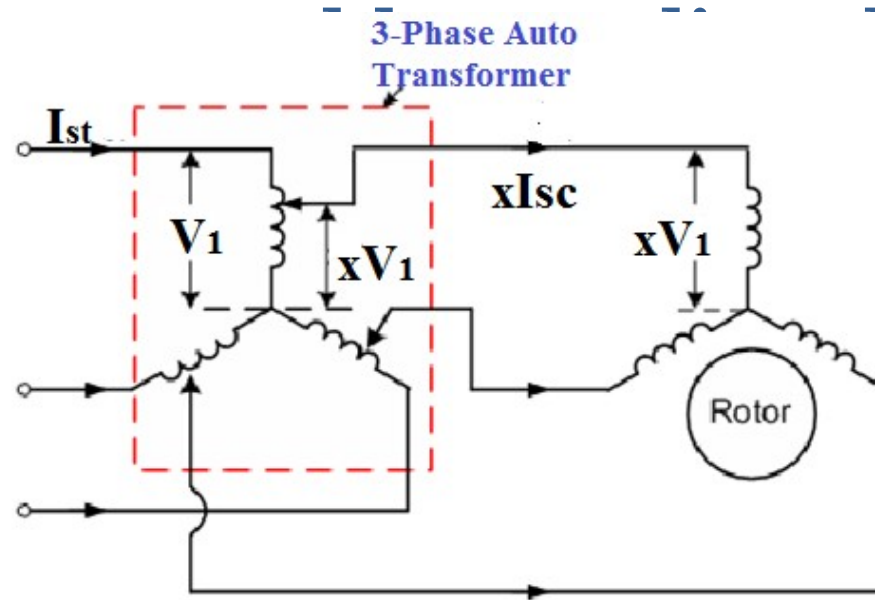

Figure3-23 Circuit arrangement for Auto transformer starting
- A fraction of xV_1 of the supply voltage V_1 is applied to the stator terminals at the time of starting, by means of an autotransformer as shown in fig.3-23 below